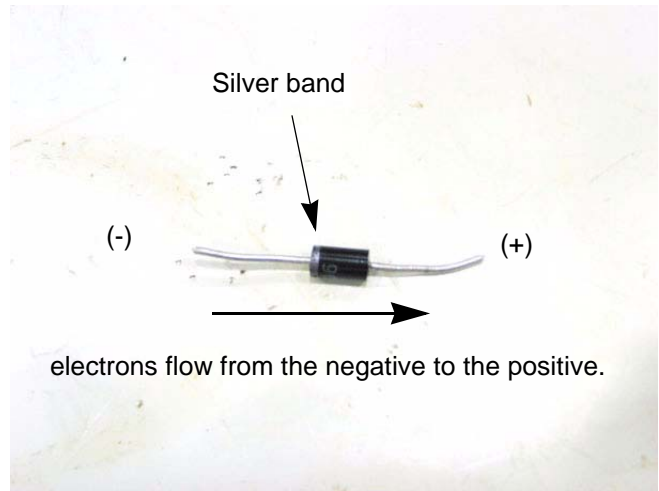

Figure 7.61
- What is a diode? A diode acts like a one way valve, allowing current to flow in only one direction. See Figure 7.61.